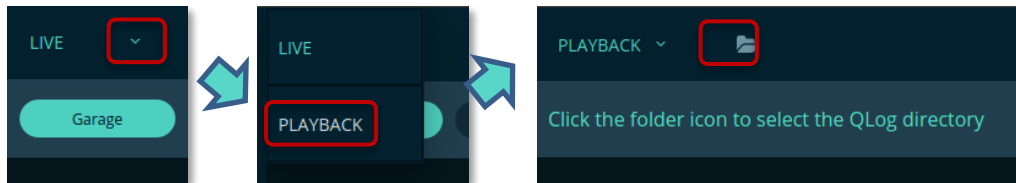

Figure 33. Visualize Tab: Mode Selector Menu (left), Items (middle), File Icon (right)
- To switch between **PLAYBACK** mode and **LIVE** mode, click the mode selector arrow in the top right corner to open the drop-down menu, and select **LIVE** or **PLAYBACK**. See Figure 33. Visualize Tab: Mode Selector Menu \(left\), Items \(middle\), File Icon \(right\).
PLAYBACK mode is available in both the **Visualize** tab and **Calibrate** tab. Both tabs are synchronized to visualize the point cloud at the same place in the recording. See Figure 33. Visualize Tab: Mode Selector Menu \(left\), Items \(middle\), File Icon \(right\).